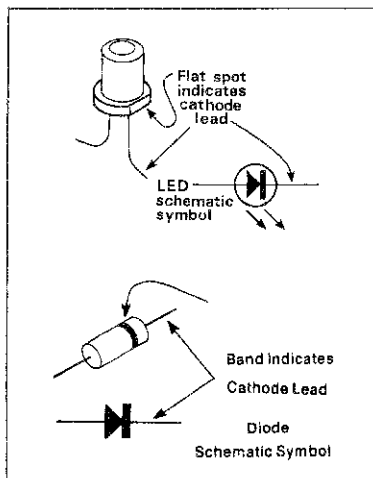

Figure 3b
- Note that electrolytic and tantalum capacitors are "polarized" components and have (+) and (-) marks, just like a battery. Like a battery, if you don't hook these parts up right the circuit won't function; so, the circuit board legend has a (+) symbol near the hold where the capacitor's (+) lead must go. LEDs and diodes are also polarized. Referring to Figure 3b, the LED symbol is an arrow pointing towards a bar. Generally, the bar (or cathode) end of the LED is designated with either a flat indentation in the case or a dot of paint. Diodes have a similar schematic symbol, and the bar end of the diode corresponds to a band painted on the diode itself.